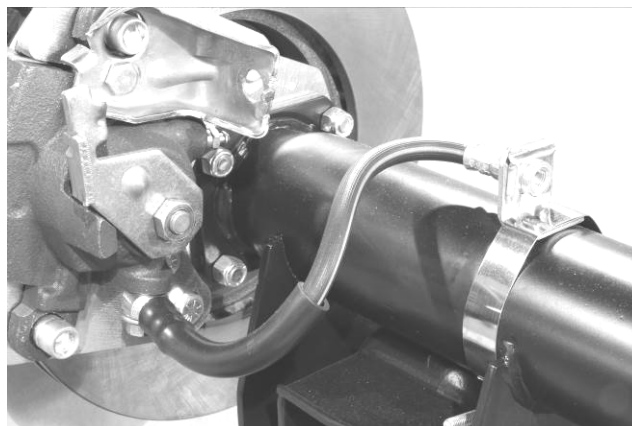

Figure 8 – Brake Hose Attached at the Rear Axle Housing
11. Install the flexible brake hose. Attach the brake hose to the caliper using the provided banjo bolt and copper crush washers. Fasten the “L” shaped brackets onto the axle housing. This can be done with large worm style clamps like shown in Figure 8 or by welding or bolting. Once the brackets are installed, use the provided clip and attach the brake hose to the bracket. Attach the hardline to the brake hose. It may be necessary to shorten and re-flare the hardline.